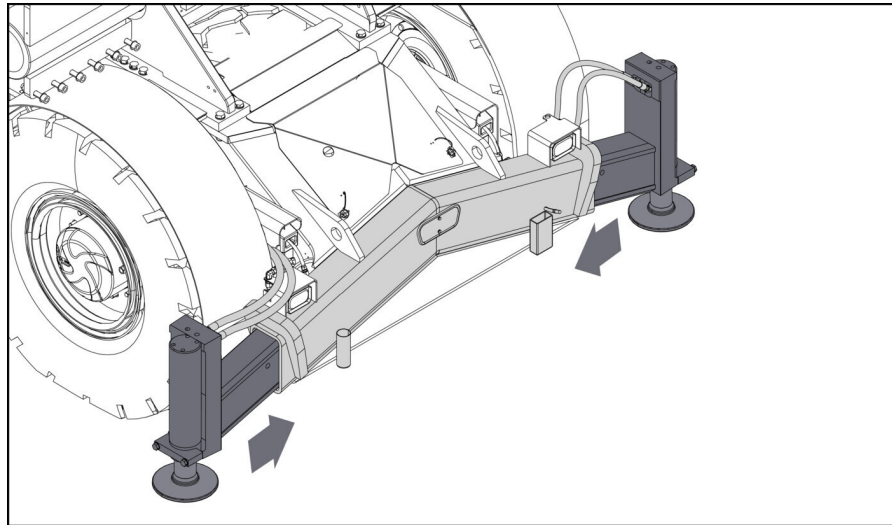

Figure 22
17. Retract the front jack support legs fully into the jack beam (Figure 22).